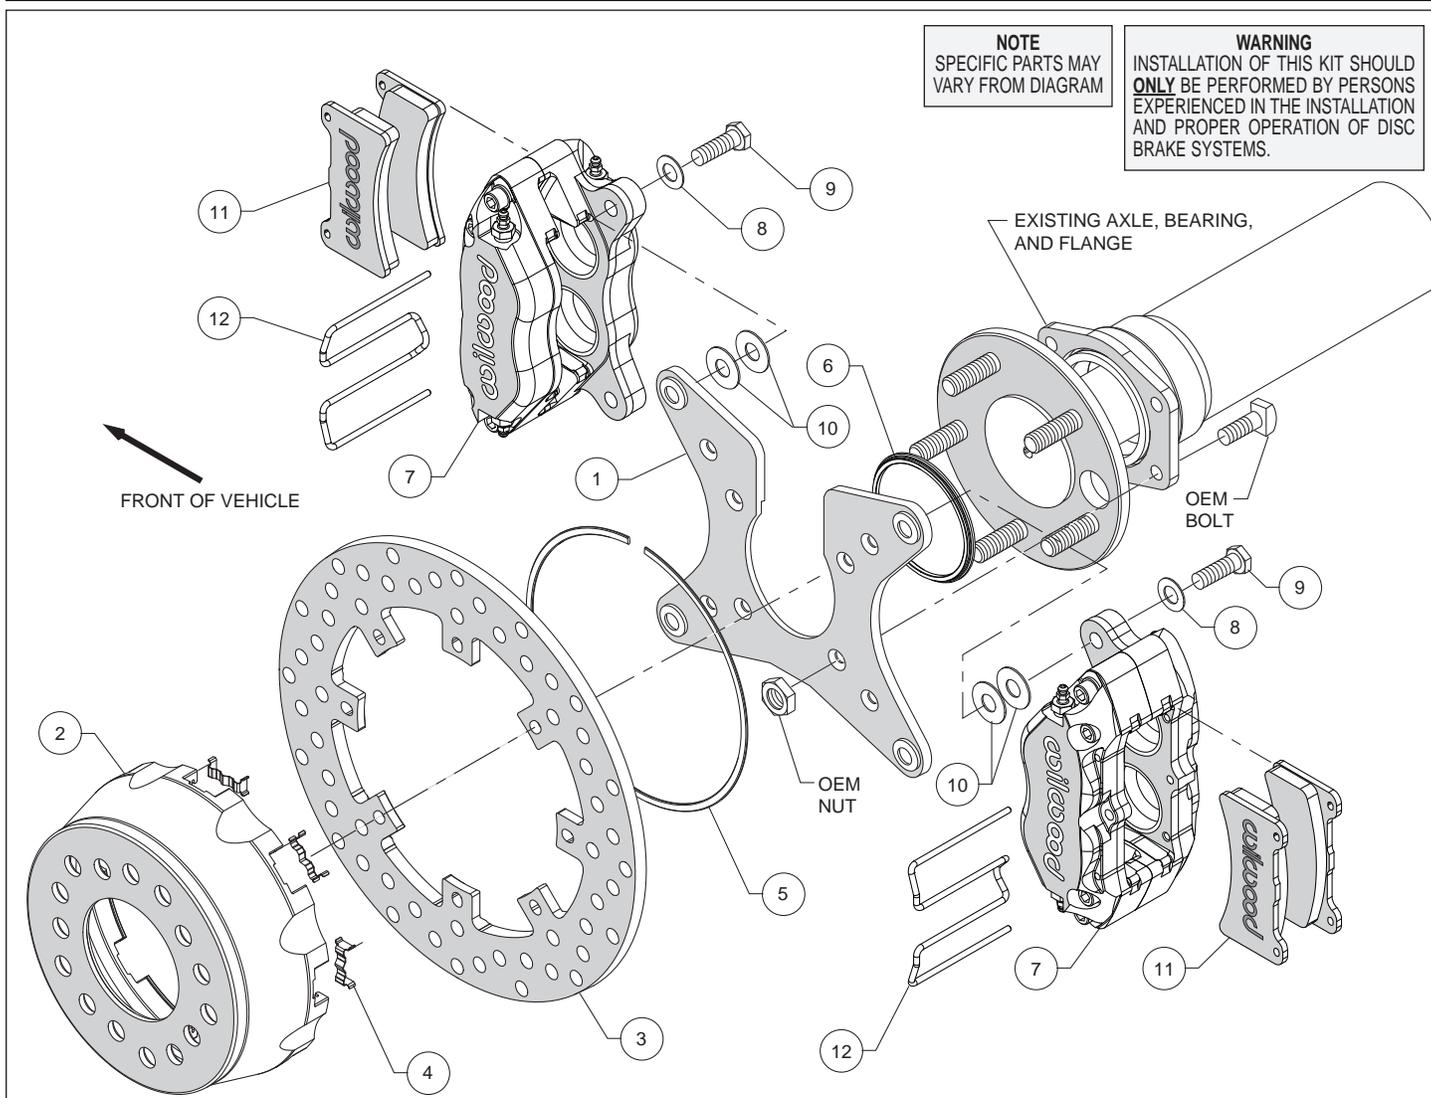
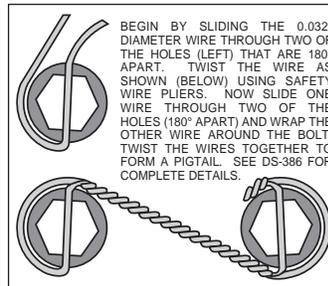
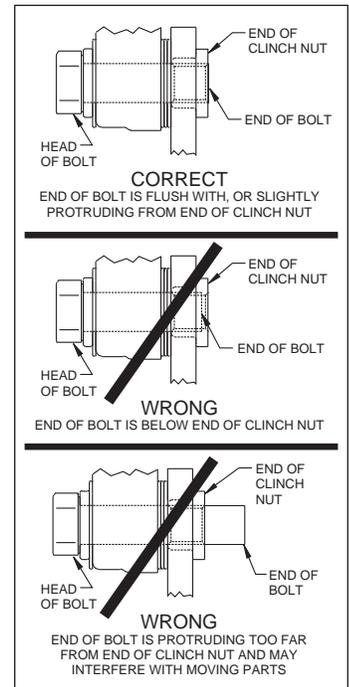

Figure 1. Typical Installation Configuration
Figure 4. Safety Wire Diagram
Figure 5. Clinch Nut Engagement Diagram
Assembly Instructions (numbers in parenthesis refer to the parts list and Figure 1 on the preceding pages): **CAUTION:** All mounting bolts must fully engage clinch nuts. Be sure to check that all bolts are either flush or protruding through flanged side of clinch nut after shiming, Figure 5.
- Install the caliper mounting bracket (1), with the slot for the axle pointing upward, to the housing flange using the OEM bolts and nuts, as shown in Figure 1 and Photo 1. Ensure that the caliper mounting ears on the bracket are oriented fore and aft on the car, with the heads of the clinch nuts facing outboard, Photo 1. Apply red *Loctite*[®] 271 to the OEM bolt threads and torque to OEM specifications.
- Insert the dynamic mount wear plates (4) into the slots in the hat (2) making sure the tabs snap in place, Photo 2. Orient the rotor (3) as shown in Figure 1 and Photo 3, with the flush mount tab side facing the hat. Attach the rotor to the hat using snap ring (5) by pushing down on the rotor and installing the ring into the groove in the hat, as shown in Photo 4. Ensure that the ring is fully engaged in the groove.
- Slide the rotor registration adapter (6) onto the axle register on the axle flange with the smaller O.D. facing toward the hat (2), Photo 5. Align the correct hole pattern in the hat with the axle stud pattern and slide the hat/rotor assembly onto the axle hub. **NOTE:** The hat must fit flush against the axle flange or excessive rotor run out may result. Install three lug nuts (finger tight) to keep the hat/rotor in place while continuing with the installation. **NOTE:** Some OEM and aftermarket axles come with stud sizes larger than 0.50" diameter. Verify stud size, and if necessary, have a qualified machine shop drill the hats to the correct size.
- NOTE:** Please reference the caution statement at the beginning of the assembly instructions. Mount one caliper (7) onto the mounting bracket (1) using bolts (9) and washers (8), as shown in Figure 1. Initially place two .035" thick shims (10) on each bolt between the caliper and the bracket, Photo 6. Temporarily tighten the mounting bolts and view the rotor (3) through the top opening of caliper. The rotor should be centered in the caliper, Photo 7. If not, adjust the caliper by adding or subtracting shims between the bracket and the caliper. Always use the same amount of shims on each of the two mounting bolts. **NOTE:** The end of each bolt must be flush with or slightly protruding from the
head of the clinch nut. If necessary, place spare shims between washer and caliper mounting ear to achieve the proper clinch nut engagement, as shown in Figure 5. Once the caliper alignment and clinch nut engagement are correct, remove the bolts one at a time, apply red *Loctite® 271* to the threads, and torque to 40 ft-lb. For an added measure of security, the bolts may be safety wired using standard 0.032 inch diameter stainless steel safety wire as shown in Figure 4. Please refer to Wilwood's data sheet DS-386 (available at www.wilwood.com/Pdf/DataSheets/ds386.pdf) for complete safety wire installation instructions. Repeat this procedure for the second caliper.